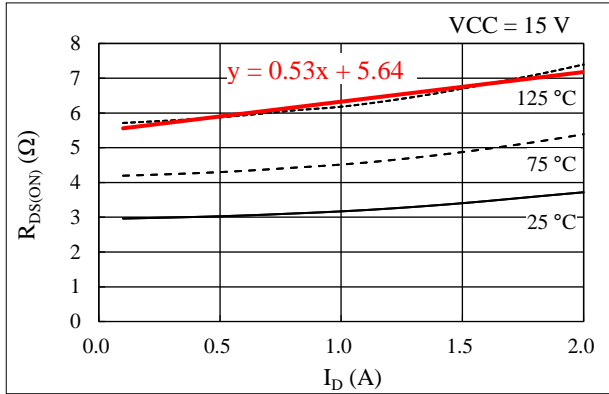

Figure 14-2. Linear Approximate Equation of  $R_{DS(ON)}$  vs.  $I_D$
Steady-state loss in a power MOSFET can be computed by using the  $R_{DS(ON)}$  vs.  $I_D$  curves, listed in Section 15.3.1. As expressed by the curves in Figure 14-2, a linear approximation at a range the  $I_D$  is actually used is obtained by:  $R_{DS(ON)} = \alpha \times I_D + \beta$ . The values gained by the above calculation are then applied as parameters in Equation (7), below. Hence, the equation to obtain the power MOSFET steady-state loss,  $P_{RON}$ , is: